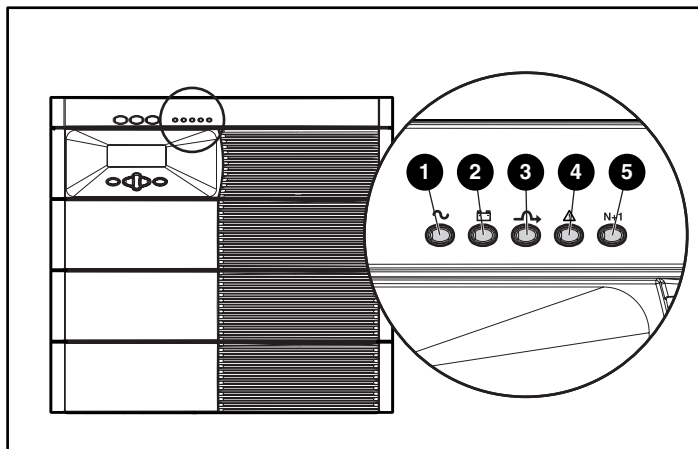

Figure 2-3: Front panel LED display
The UPS has five modes of operation, indicated by the LEDs (see Figure 2-3):
Because a portion of the self-test requires battery power, the self-test will not be initiated if the batteries are less than 90 percent charged. If the UPS detects a problem, the Alarm LED (4) will be solid red (see Figure 2-3), and the UPS sounds an audible alarm.